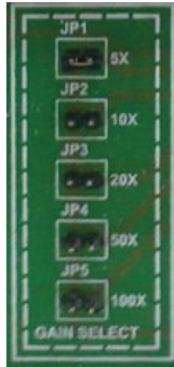

Figure: 3
- 3 For 100x gain (refer to Fig. 3), note down DMM voltage by varying weights. Plot voltage v/s weight. What is the sensitivity (in mV/gm) of the sensor?
- 4 The weighing scale has a load cell giving a differential output to an instrumentation amplifier made up of discrete op-amps (refer to the circuit diagram in the load cell manual). The gain of the instrumentation amplifier can be adjusted to take 5x, 10x, 20x, 50x, 100x by plugging the suitable jumper (JP1-JP5, refer to Fig. 3). Can you identify how gain is being changed? One jumper must be connected at a time - what happens when 2 jumpers are connected?